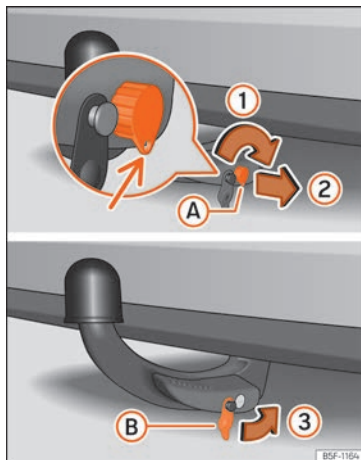

Fig. 255 Putting the tow hook in place. Step 2.
- Turn the key to the right just half a turn, until the hole in the key faces downwards >>> **Fig. 255** ①.
- Remove the key ②.
- Place the cover ③ on the lock ③ >>> **Fig. 255** >>> ①.